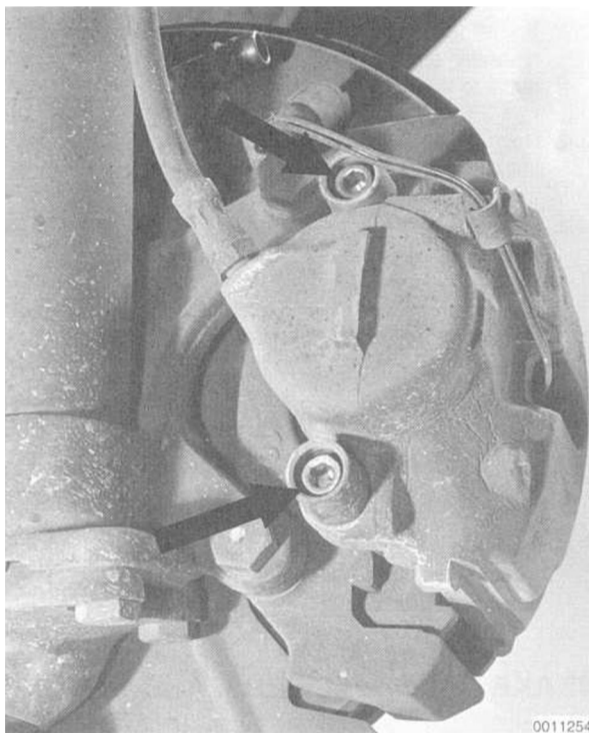

Fig. 2. Brake caliper guide bolts (**arrows**)
2. Remove the plastic caps from the guide bolt covers and then remove the guide bolts. See Fig. 2.